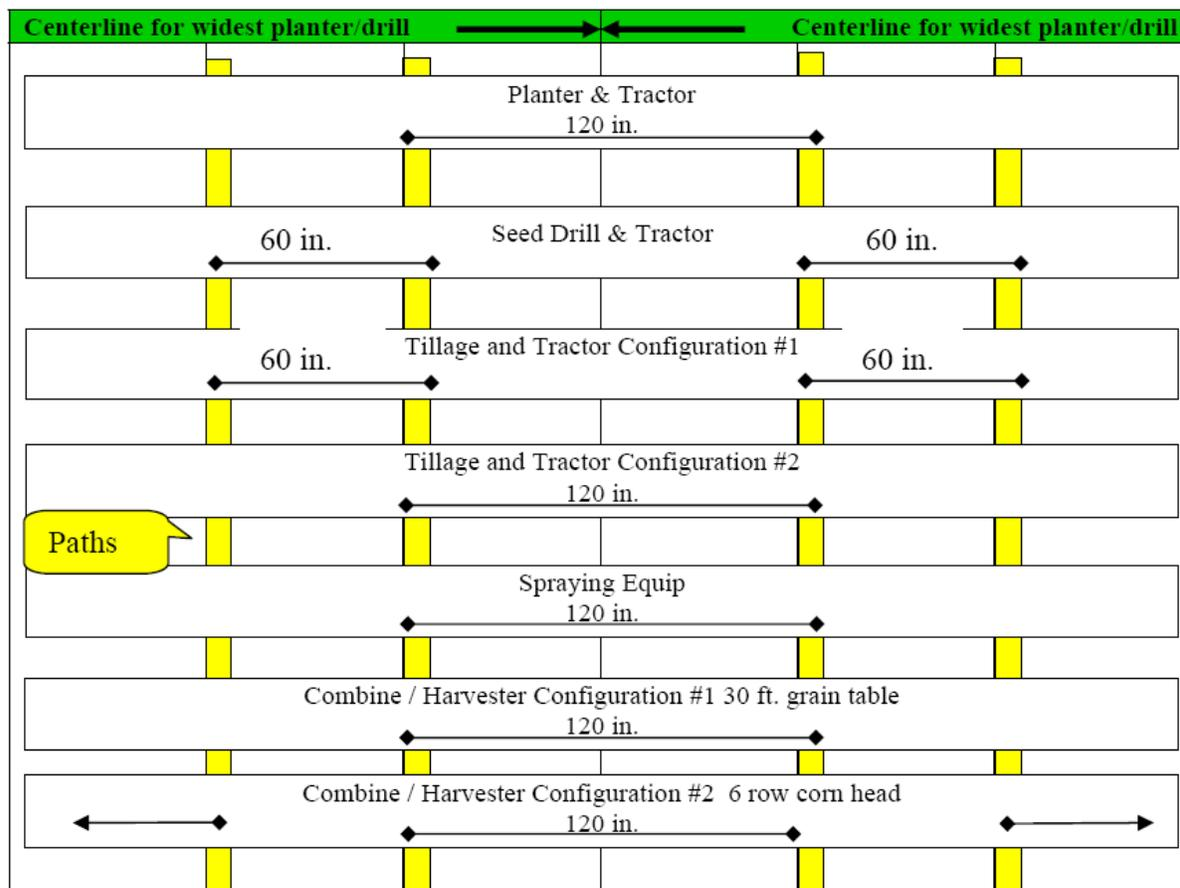

Figure 1. Example of Wheel/Track Spacing and Paths Using Multiples of the Basic Width (units are in inches or number of rows):
- All equipment must cover the same width or multiples of that width (See Figure 1),